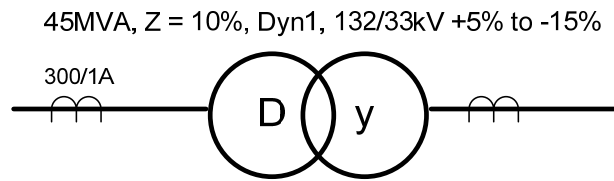

Figure 2-19 Thermal Overload Settings
1. In fig. 2-19 the direction of power flow is HV to LV. If W1 input is connected to HV CTs (as is usual) then set **49 Select = W1**. The transformer loss current and harmonic currents are then included in the thermal calculation.